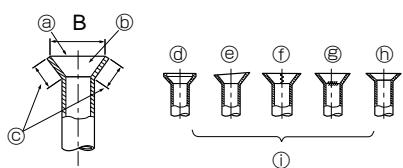
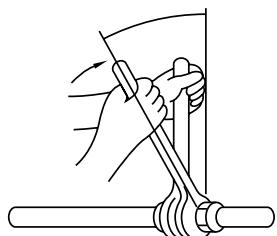

Fig. 5-7
Fig. 5-8
5.2.5. Check (Fig. 5-7)
- ③ Smooth all around
- ④ Inside is shining without any scratches
- ⑤ Even length all around
- ⑥ Too much
- ⑦ Tilted
- ⑧ Scratch on flared plane
- ⑨ Cracked
- ⑩ Uneven
- ⑪ Bad examples
- Apply a thin coat of refrigeration oil on the seat surface of pipe. (Fig. 5-8)